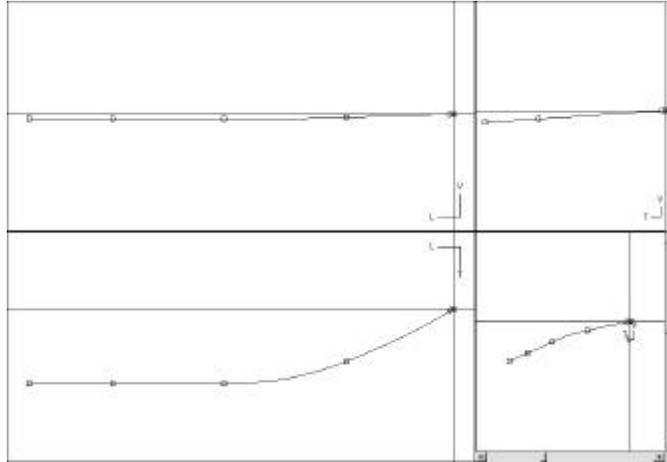

Figure 1-4: Attaching curve Deck Edge to point Deckfor
4. In the *Attach Curve* dialogue, Under *Action*, pick **Attach to Point**, under *Attach to point*, select **Deckfor** and click **OK**. (See Figure 1-4.)